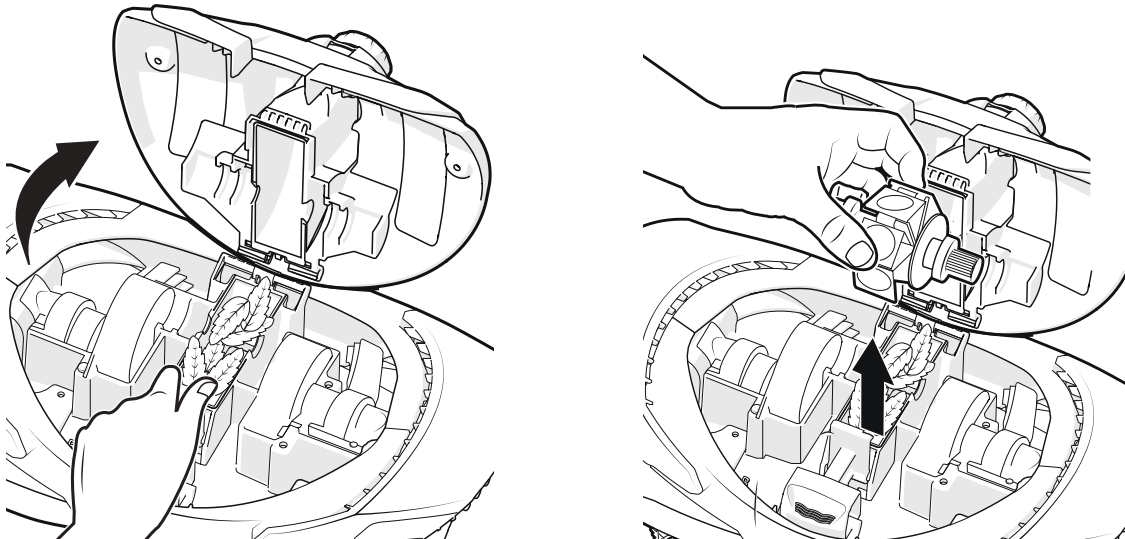

Figure 11. Remove the Engine
3. If necessary, pull the engine by the engine blades and remove it. No tools required (Figure 11).